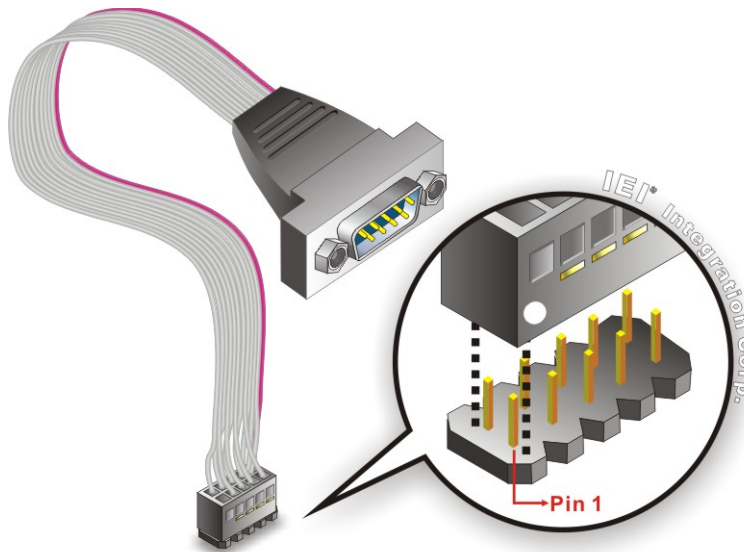

Figure 4-21: Single RS-232 Cable Installation
Step 2: Insert the cable connector. Align the cable connector with the onboard connector. Make sure pin 1 on the board and connector line up. Pin 1 on the cable connector is indicated with a white dot. See **Figure 4-21**.